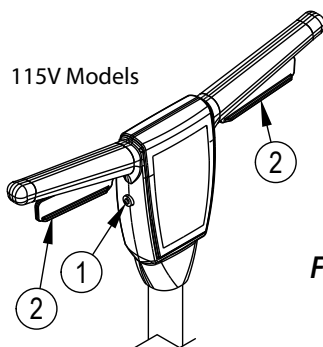

Figure 6
- 5 Push the interlock button (1), and apply pressure to the levers (2). To stop the machine, release the levers (2) (see Figure 6).
- 3 Push the interlock button (1), and apply pressure to the levers (2). To stop the machine, release the levers (2) (see Figure 6).